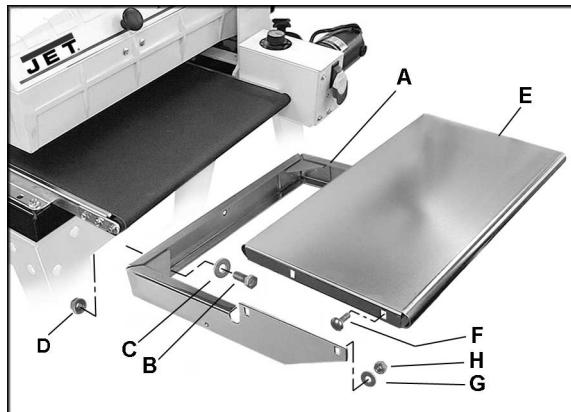
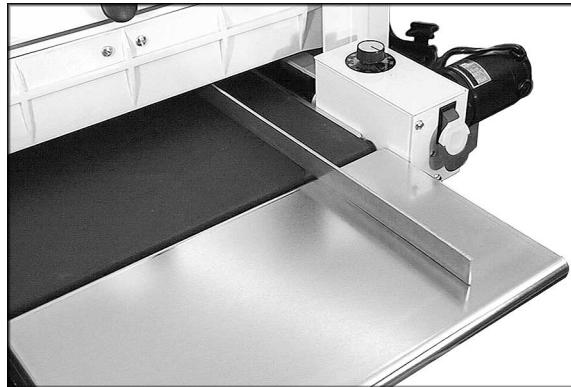

Figure 8
Figure 9
1. Install a bracket (A, Figure 8) to the two holes in the sander base with a 9/16" wrench, using two hex cap screws (B), two flat washers (C) and two flanged lock nuts (D). The bracket should be flush against the base. Make sure the slotted holes for mounting the table are facing up, as shown in Figure 8. Tighten the flanged lock nuts (D) against the inside of the sander base.
2. Place the table (E, Figure 8) over the bracket and insert four carriage bolts, (F) flat washers (G) and hex nuts (H), as shown. *Finger tighten only.*
3. Position the table slightly below the conveyor belt surface for proper support of stock. To check position, place a straight-edge on one side of the conveyor bed under the sanding drum and extending out over the table. Lower the sanding drum to securely hold the straight-edge in place. See Figure 9. Raise the infeed/outfeed table until the table surface is slightly below the conveyor belt surface. Tighten hex nuts (H, Figure 8) with a 7/16" wrench. Repeat this procedure for other side of table.
NOTE: If after adjusting the infeed/outfeed tables, they are still too high for proper operation, the bracket may not be "set." To set the bracket, slightly loosen the flanged hex nuts (D, Figure 8) and firmly push down on the bracket. Securely re-tighten the flanged hex nuts.